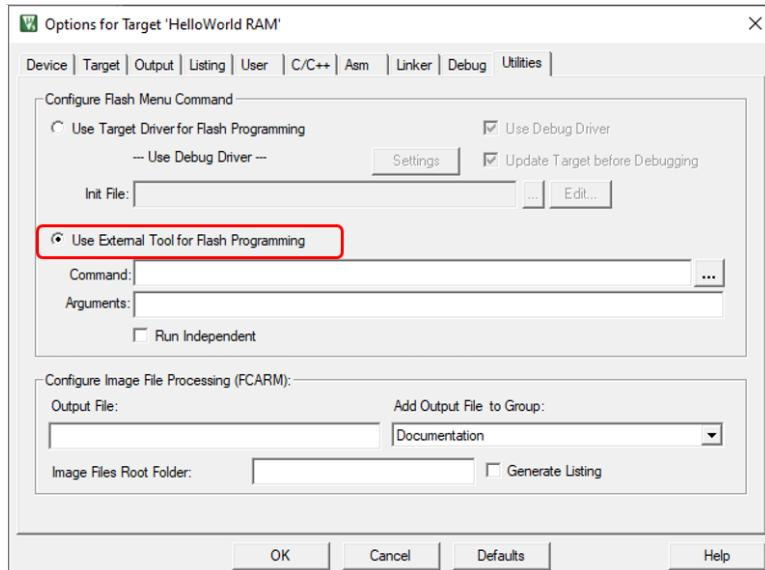

Figure 8.32: Keil IDE: Target Option Utilities Configuration for RAM Target.
7. Select the Utilities tab and select the radio button beside “Use External Tool for Flash Programming” (see Figure 8.32).